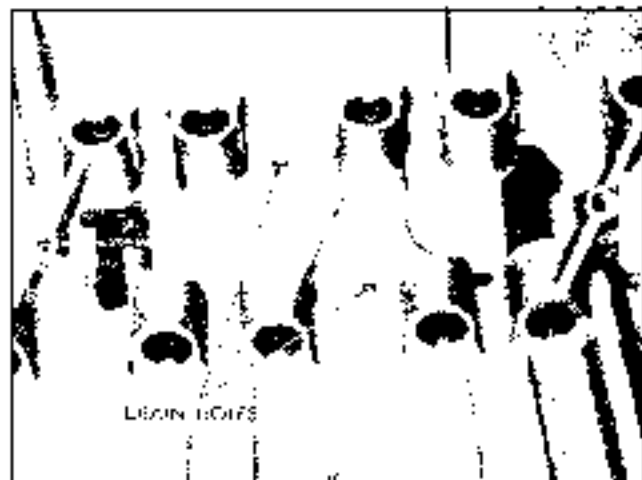

Fig. 6-128 Drain Holes in Lifter Gallery
- b. Check passage from filter outlet to rear main bearing by inserting wire in oil filter outlet passage and using pen light to see that wire is visible in passage to rear main bearing (Fig. 6-128).
f. Check oil passages to right bank lifter bosses. Use rubber hose to blow smoke in passage from front main bearing to right main oil gallery while observing for smoke passing out passages from right gallery to lifter bosses (Fig. 6-128).